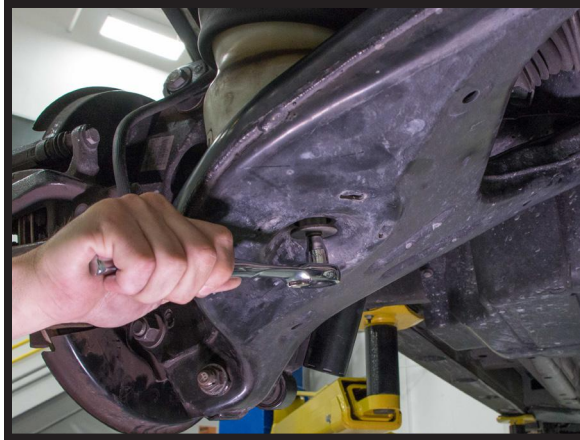

FIGURE 27
3. WITH ALL OF THE AIR EVACUATED FROM THE AIR SPRINGS, REMOVE THE LOWER AIR SPRING RETENTION SCREW FROM THE BOTTOM CONTROL ARM. (FIGURE 27)